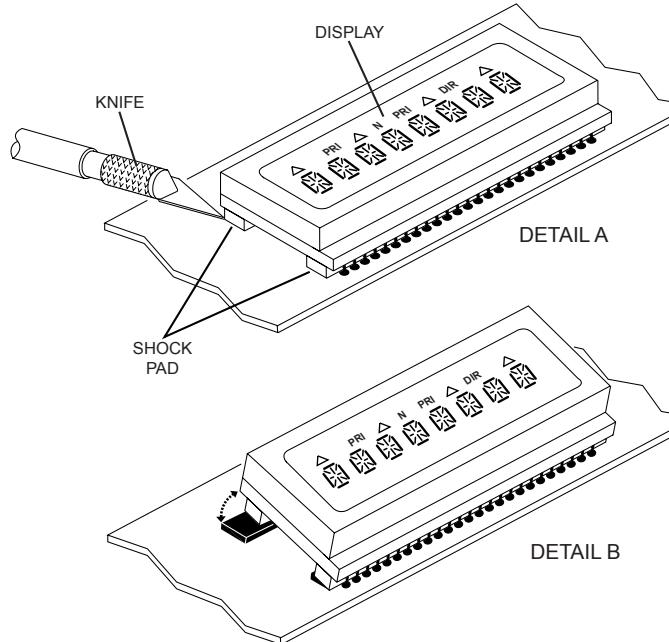

Figure 5-1. Replacing the Vacuum Fluorescent Display
- Figure 5-1 below, Detail A, shows the removal procedure. Cut through the shock pad located opposite the side of the display with the soldered leads.
- Wear finger protection to prevent cutting your fingers on the sharp edges of the glass. Pull up on the edge of the display (see Figure 5-1 above, Detail B), bending the solder leads. Then cut through the remaining shock pad.